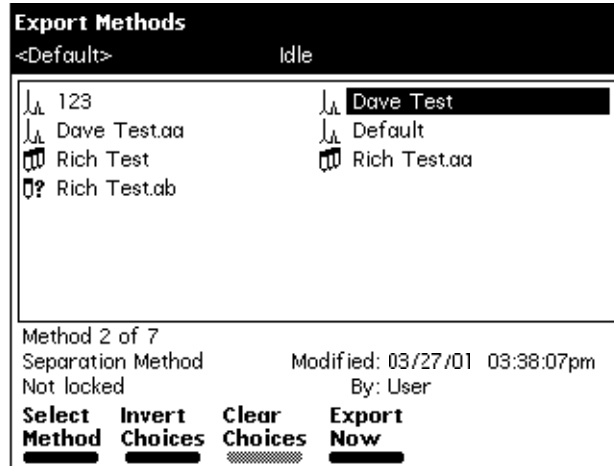

Figure 6-21 Export Methods Screen
3. Press the **Export Methods** screen key. The Export Methods screen appears, displaying a list of currently stored methods (Figure 6-21).